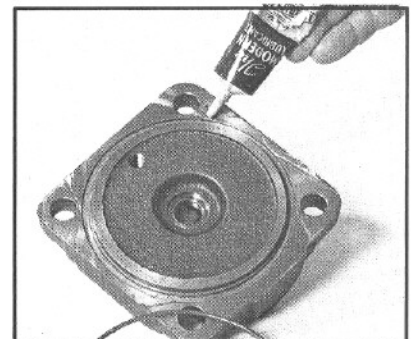

Figure 111
13. If your gear is equipped with the removable end cover (37), apply clean grease to the O-ring groove in the end cover. Install the new end-cover O-ring (10) into the groove (FIG. 111).